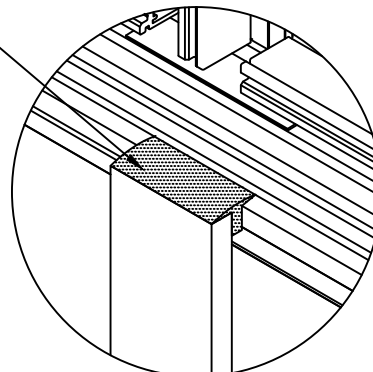

FIGURE 13
- 1.18 Once pressure plates and face caps are installed. Top side of face cap will have backer rod inserted into opening and sealant applied to seal pressure plate and cap. See **FIGURE 13**.